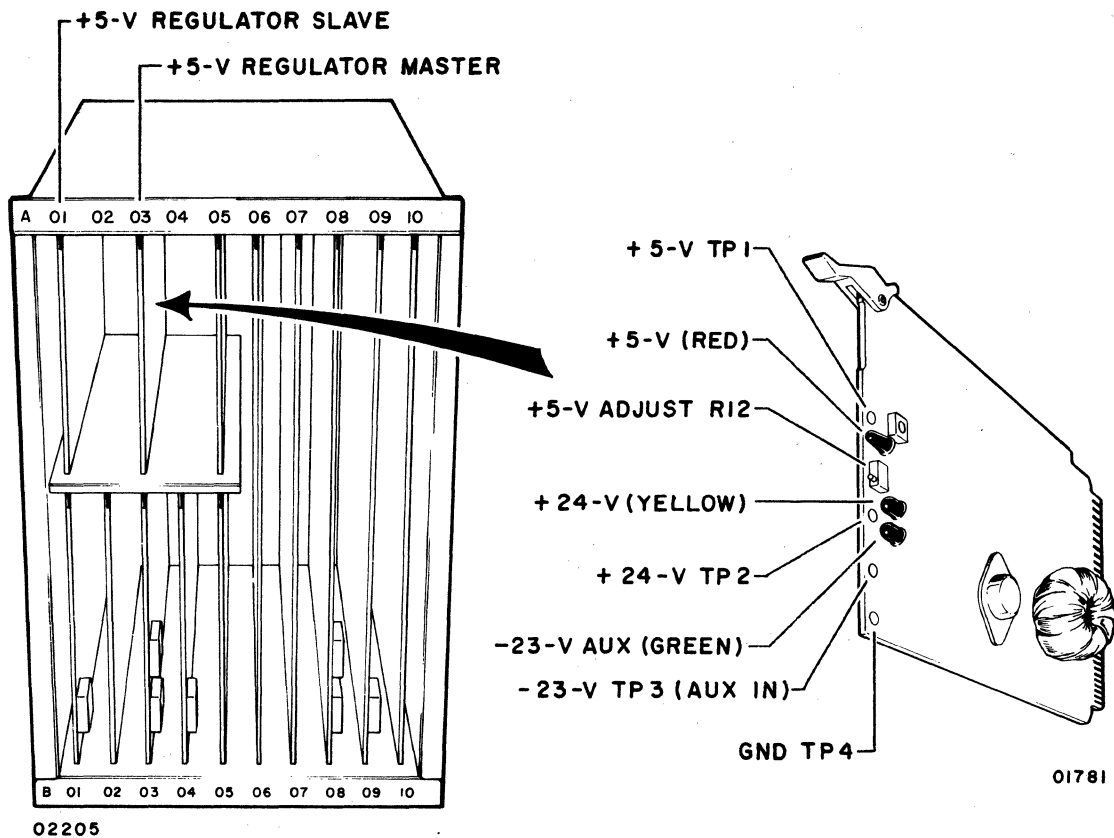

Figure CRT33. +5-V dc Regulator Board Test Points
- 6) Apply voltmeter black (-) lead to ground (GND) test point on A03 board (figure CRT33).
- 7) Apply red (+) lead to +5-V dc test point (figure CRT33).
- 8) Check that meter indicates +5-V dc. If voltage is other than +5-V dc ± 0.25 -V dc, adjust to +5 by turning adjustment screw of potentiometer R12 (figure CRT33). If unable to adjust, replace A03 card.
- 10) Apply red (+) lead to +24-V dc test point (figure CRT33) and black (-) lead to GND (figure CRT33).
- 13) Apply black (-) lead to -23-V dc test point and red (+) lead to GND (figure CRT33).